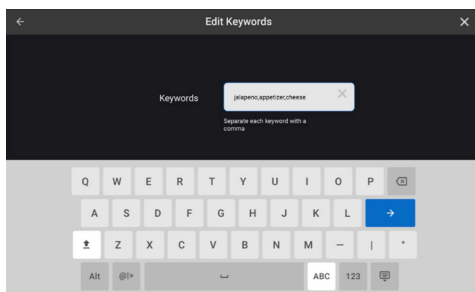

Figure 27: New Recipe Keywords
- Input keywords for the search option and touch the blue arrow button to continue (Figure 27).